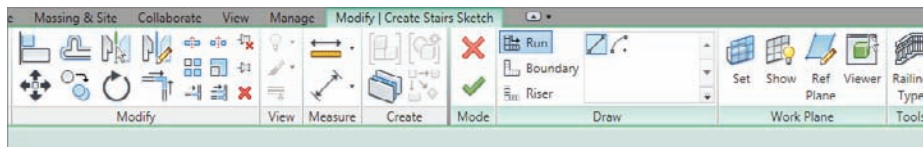

FIGURE 10.2 The Modify | Create Stairs Sketch Mode
4. You will now be put into the Sketch Mode for the stairs you are about to design, as shown in Figure 10.2.